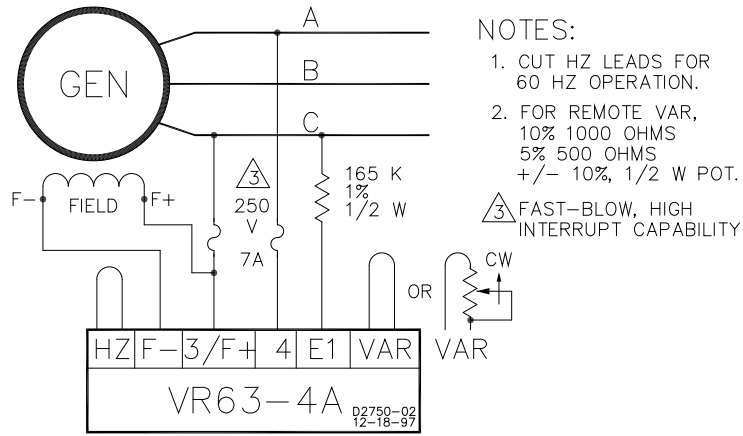

Figure 4. Interconnection Diagram, 208/240 V Nominal
Connect as shown in Figures 4 and 5. Power for the exciter field and regulator circuitry is derived from the generator output or auxiliary winding. The operable power input range is 190 to 240 Vac.
It is recommended that 7 A, 250 V fuses with a high interruption capability be installed per the interconnection diagram in Figures 4 and 5.
When using the remote voltage adjust rheostat (VAR), the VAR wire on the regulator should be cut and the rheostat connected to both ends. A 1 k Ω , ½ W resistor is adequate for most applications. See Figures 4 and 5.
2. Ensure that the regulator is connected to the generator correctly. See Figures 4 and 5.